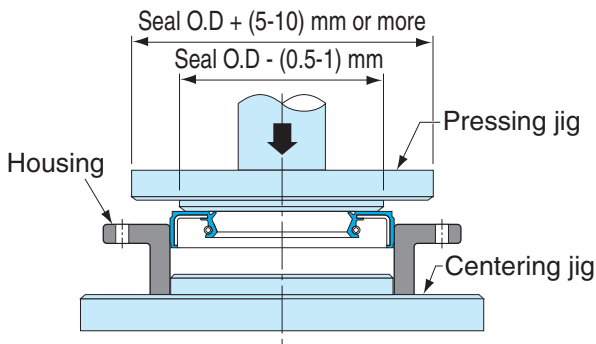
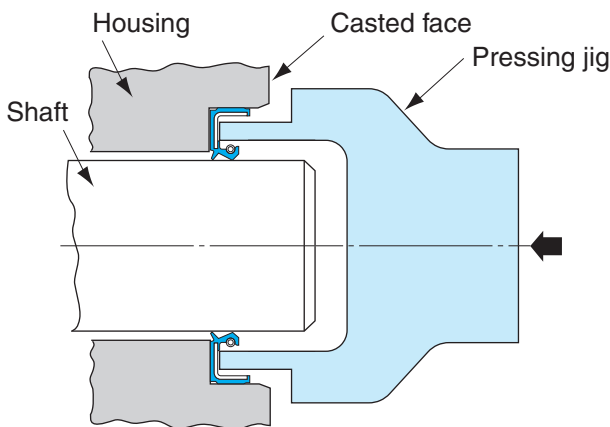

Fig. 1.7.4 Recommended seal press-fitting jigs
Fig. 1.7.5 Seal press-fitting jig for shouldered housing bore in the opposite direction
6) When seal is pressed into housing bore, use pressing jig as shown in Fig. 1.7.4. When press-fitting an oil seal into the housing bore in the opposite direction, use the pressing jig as shown in Figs. 1.7.5 and 1.7.6.
Seal press fit at a slant may cause the fit surface to have tear or scuffing and leakage. To ensure good sealing performance, seals need to be mounted at right angles to shafts. For right angled mounting, press the seal down thoroughly to reach the housing shoulder (Fig. 1.7.5).